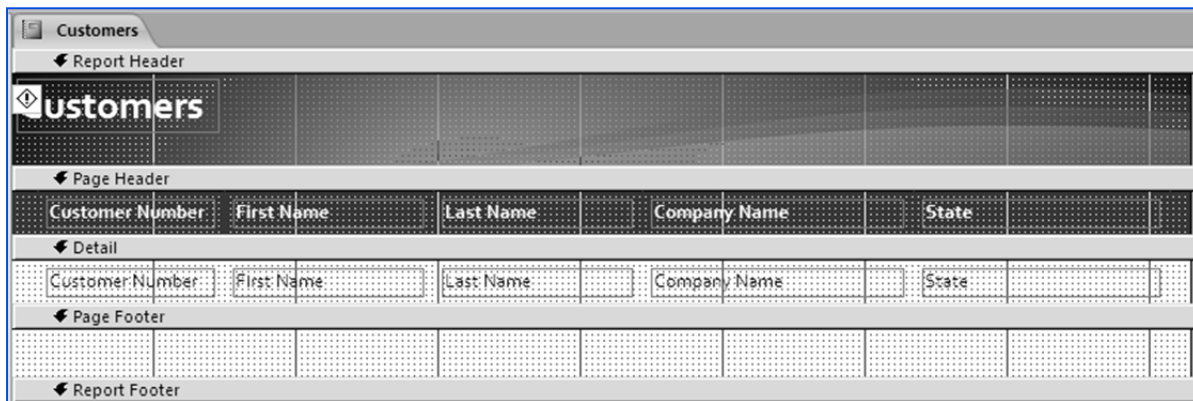

Fig. 2.4.2: Report rptCustomers Design view
1. Right-click the report *rptCustomers* under *All Access Object* -> *Reports* tab and select *Design View* from the dropdown to open the report in *Design View*. The *Report Design View* should appear, as in Fig. 2.4.2.